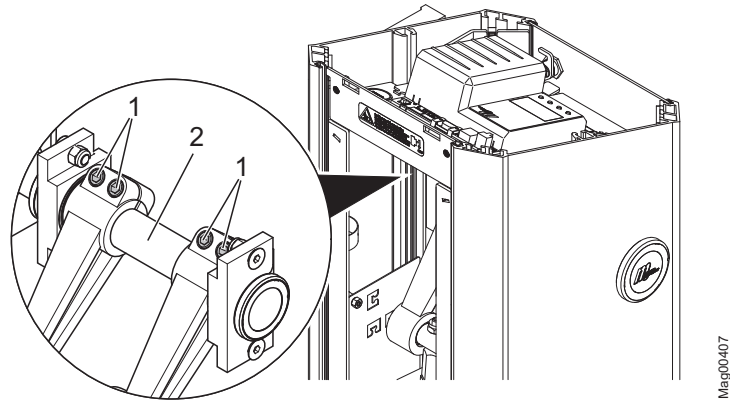

Fig. 28: Loosen hexagon socket screws at the clamping lever
- Loosen the 4 hexagon socket screws SW 10 at the two clamping levers. → See page 65, Fig. 28.
8. Check the vertical position with a spirit level and correct if required. Turn the flange shaft for correction. → See page 65, Fig. 28.